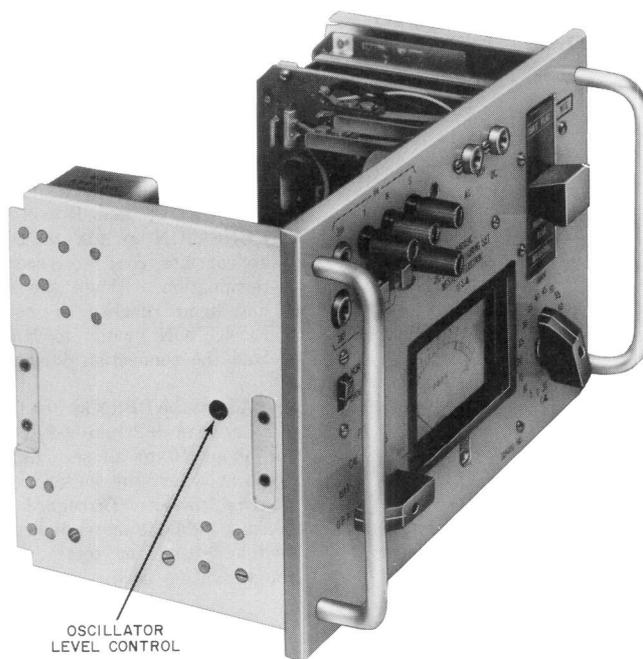

Fig. 9—Location of Oscillator Level Control
- (k) Adjust the OSC LEVEL potentiometer (Fig. 9) until the 3C set meter indicates on the red line of the scale.